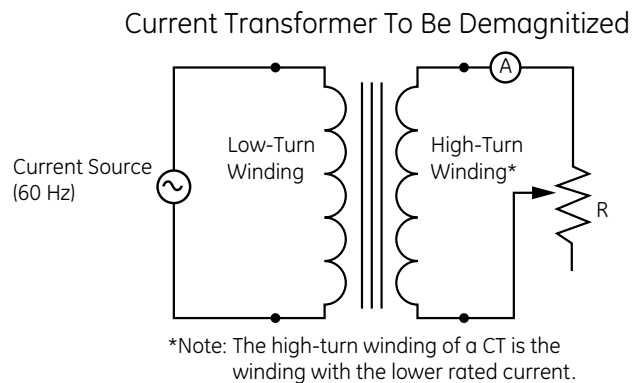

Figure 1 - Circuit for demagnetizing current transformers
One method is to connect the transformer in the test circuit as shown in Fig. 1, below. Pass rated current through the low-turn winding (usually the primary). Increase the resistance (R) in the high-turn winding (usually the secondary) circuit until the transformer core is saturated; then, slowly reduce resistance to zero and disconnect the current source. Saturation of the core is indicated by a reduction of current in the high-turn winding circuit.